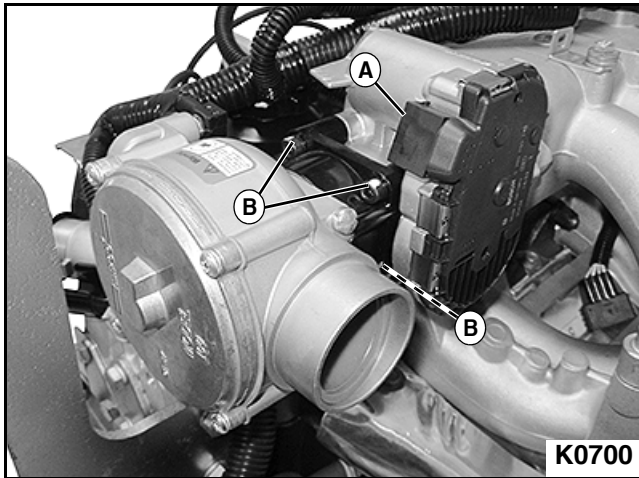

Figure 3-35
1. Remove electrical connection at throttle body from throttle position sensor (A). **See Figure 3-35.**
2. Loosen four socket head cap (B) screws securing the air-fuel mixer valve and throttle body assembly to the upper intake manifold. Remove air-fuel mixer valve and throttle body as a unit from the upper intake manifold. **See Figure 3-35.**